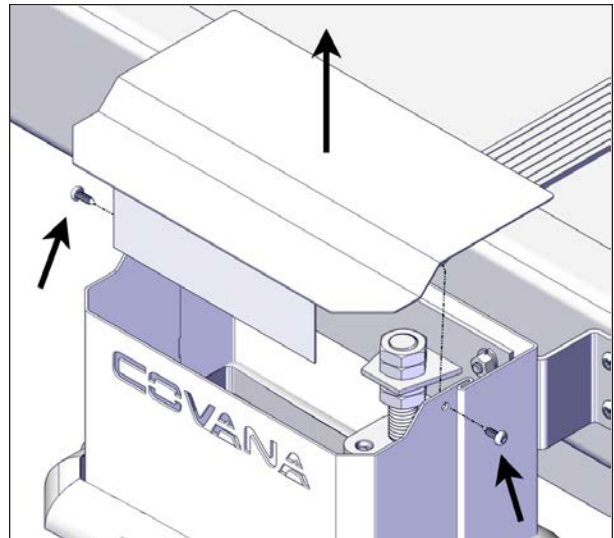

FIGURE 109: TOP PLATE REMOVAL
2. Remove the #2 Robertson screws (2) on the top plate of each post, see Figure 109. Keep the top plates and the screws in a safe location.